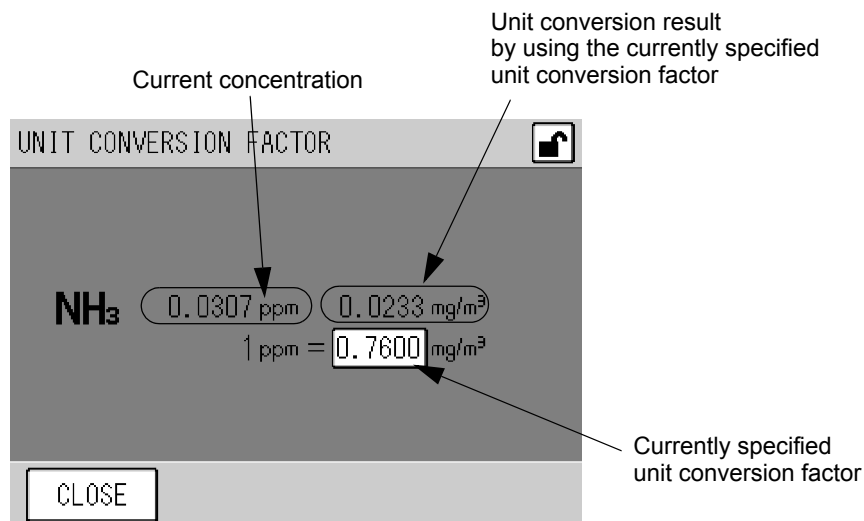

Fig. 68 UNIT CONVERSION FACTOR screen
- [UNIT CONVERSION FACTOR]: Displays the UNIT CONVERSION FACTOR screen (Fig. 68 on page 55).